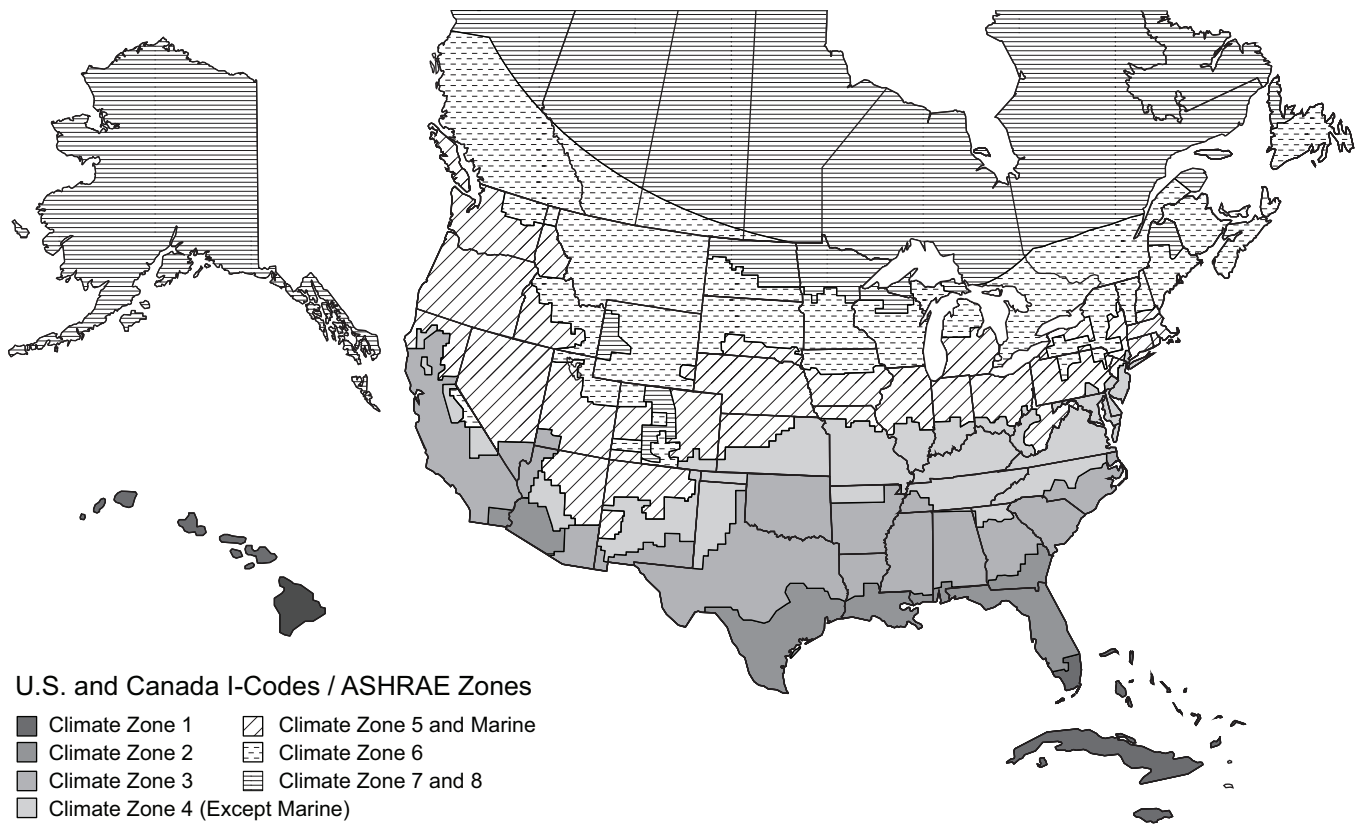

Fig. 91 — U.S. and Canada Climate Zones
- a. Refer to Fig. 91 for map of U.S. and Canada climate zones.